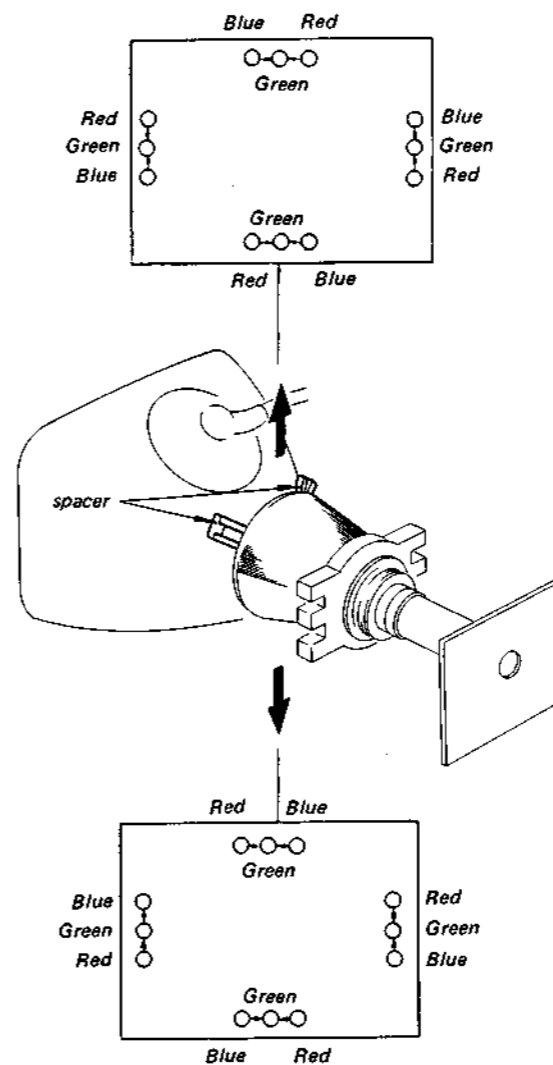

Fig. 3-8.
- When the mislanding is observed at screen as shown in Fig. 3-8, move the deflection yoke up or down. After adjustment, fix the deflection yoke by spacers.